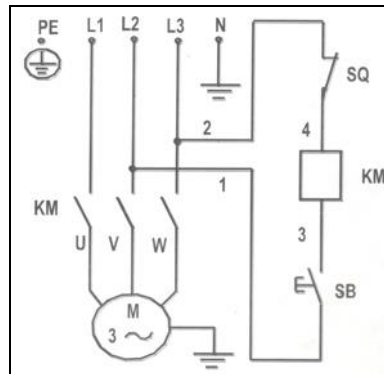

Figure 12 Electrical schematic
7.9 Mount the power unit on the main column motor plate and secure it with bolts and nuts. Connect the power cables according to the electrical schematic diagram of the hydraulic system shown in Figure 12. During initial installation, use a lift machine. When wiring, ensure the motor rotates clockwise. Incorrect rotation direction may cause gear pump wear if prolonged. Power cable requirements for installation: Three-phase power core wires must be at least 2.5mm2, and single-phase power core wires must be at least 4.0mm2.